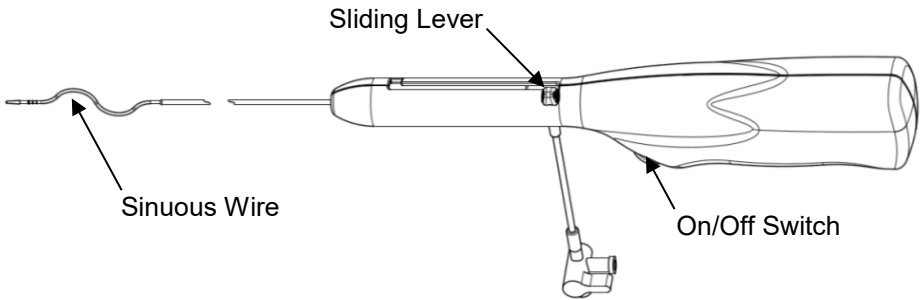

Figure 2
2. Remove the CLEANER XT™ Rotational Thrombectomy System from the package. Press the ON/OFF switch to ensure that the sinuous wire spins freely (refer to Figure 2). Release the switch to stop the rotator. **Precaution: Do not use the device if it does not activate immediately when the switch is pressed, and deactivate immediately when the switch is released.**